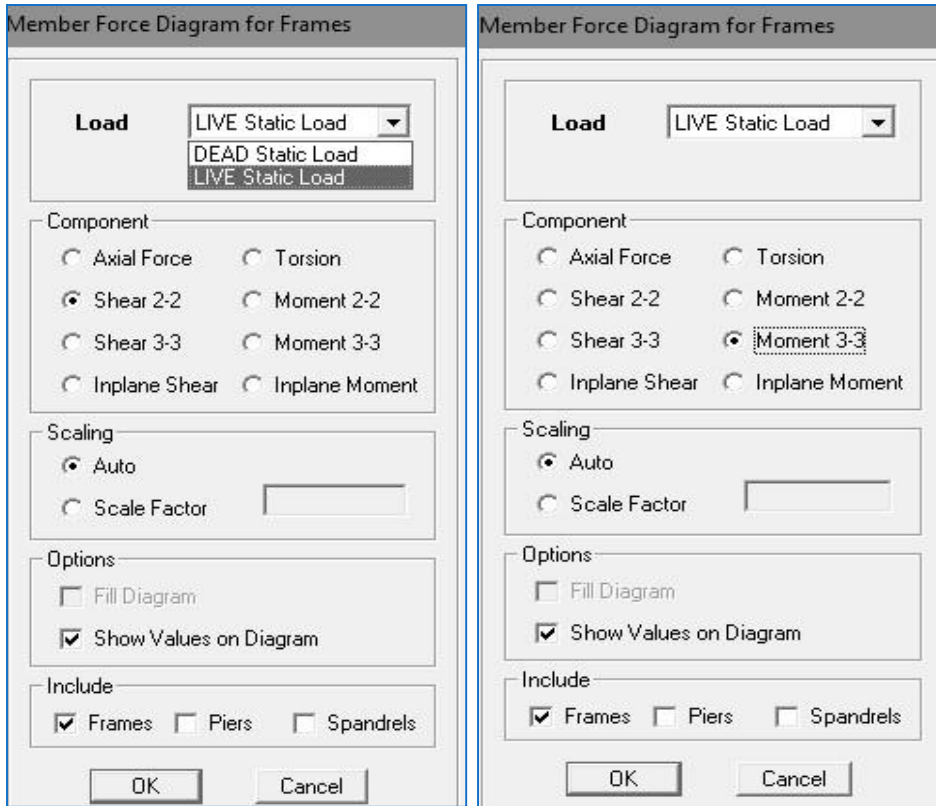

Fig. 4.27
6.2 **Maximum Shear force on beam AB:** Go to display → Show Member Forces/Stress Diagram → Frame/Pier/Spandrel Forces... → Select Load (Live/Dead etc.) → Shear 2-2 → Click on Show Values on Diagram → OK → Select the Beam by click (from the display elevation view) → press mouse right button and find out your desirable values like vertical force, horizontal force and moment. (Fig: 4.27)